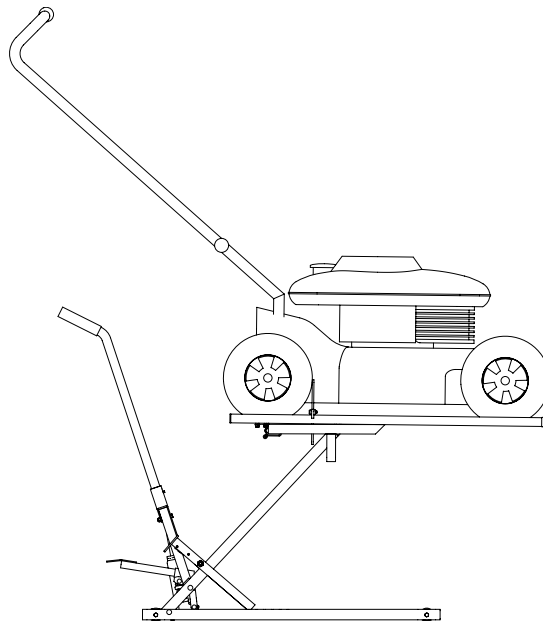

Figure 8 - Final lifted position
2. Pump the Lawn Mower Lift to the last locking position, where the push mower sits level to the ground (see figure 8).